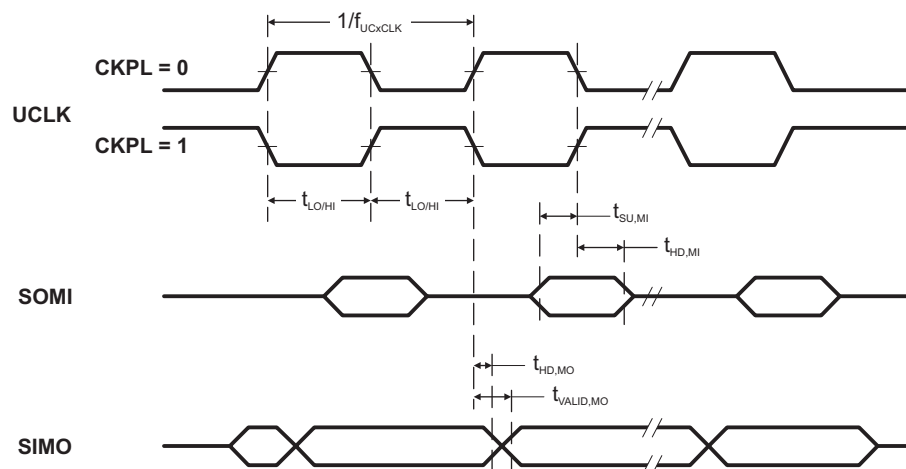
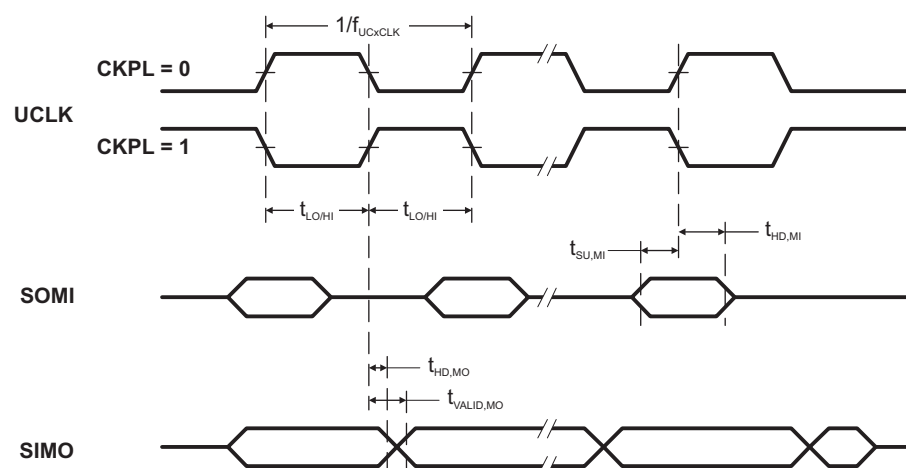

Figure 17. SPI Master Mode, CKPH = 0
Figure 18. SPI Master Mode, CKPH = 1
over recommended ranges of supply voltage and operating free-air temperature (unless otherwise noted)(1) Figure 17 Figure 18
- (2) Specifies the time to drive the next valid data to the SIMO output after the output changing UCLK clock edge. See the timing diagrams in Figure 17 and Figure 18.
- (3) Specifies how long data on the SIMO output is valid after the output changing UCLK clock edge. Negative values indicate that the data on the SIMO output can become invalid before the output changing clock edge observed on UCLK. See the timing diagrams in Figure 17 and Figure 18.
(2) Specifies the time to drive the next valid data to the SOMI output after the output changing UCLK clock edge. See the timing diagrams in Figure 17 and Figure 18.
(3) Specifies how long data on the SOMI output is valid after the output changing UCLK clock edge. See the timing diagrams in Figure 17 and Figure 18.